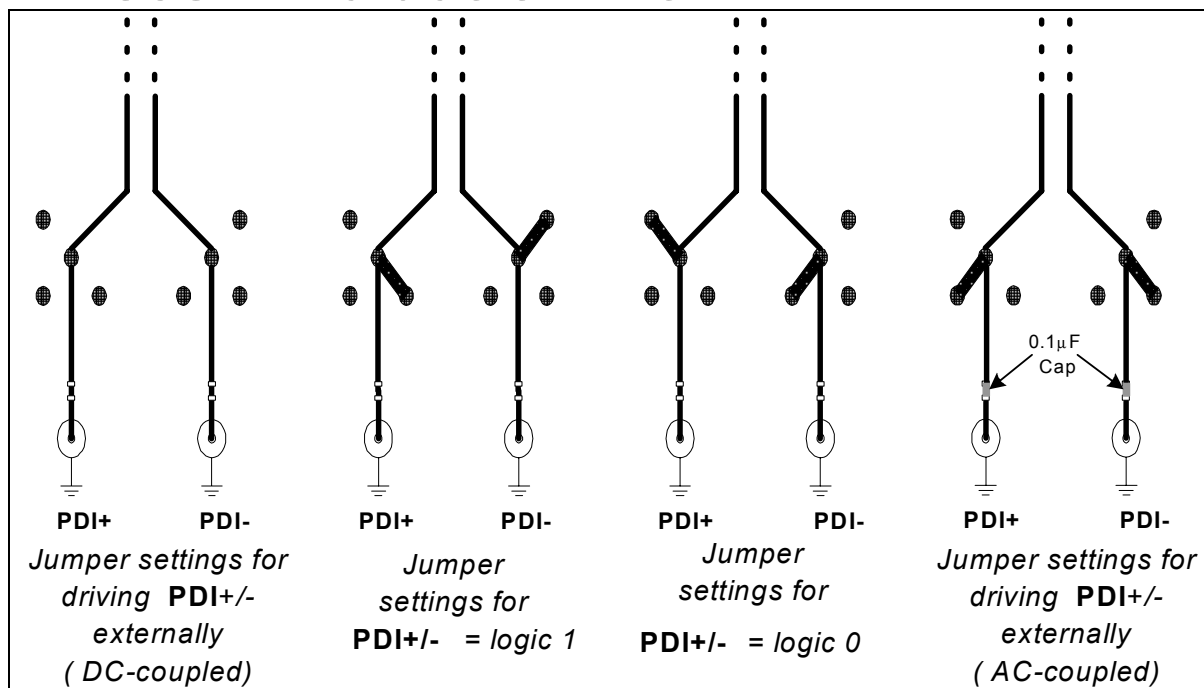

Figure 2. PDI $\pm$ Jumper Settings
The MAX3952 EV kit simplifies evaluation of the MAX3952. The EV kit operates from a +3.3V single supply and includes all the external components necessary to interface with LVDS, CML, and LVPECL inputs/outputs of the MAX3952. The LVPECL inputs (REFCLK $\pm$) are externally terminated with 100 Ω resistors. The LVDS inputs (PDI $\pm$, PCLKI $\pm$) are internally terminated with 100 Ω differential input resistance and therefore do not require external termination. Ensure that LVDS devices driving these inputs are not redundantly terminated. The CML outputs (SDO $\pm$, SCLKO $\pm$) are optimized to drive a 50 Ω load. PCLKO $\pm$, SDO $\pm$, SCLKO $\pm$, and REFCLK $\pm$ are AC-coupled with 0.1 μ F capacitors. The LVDS data and clock inputs are DC-coupled, but the lines can be cut and pads are available to allow the placement of AC-coupling capacitors. (See Figure 2)
- 3) Cut the removable traces for all of the PDI $\pm$ and PCLKI $\pm$ inputs and install 0.1 μ F capacitors. (See Figure 2)
- 5) For all PDI $\pm$ inputs, place a shunt in the 2.0k Ω to CMV position. (See Figure 2)